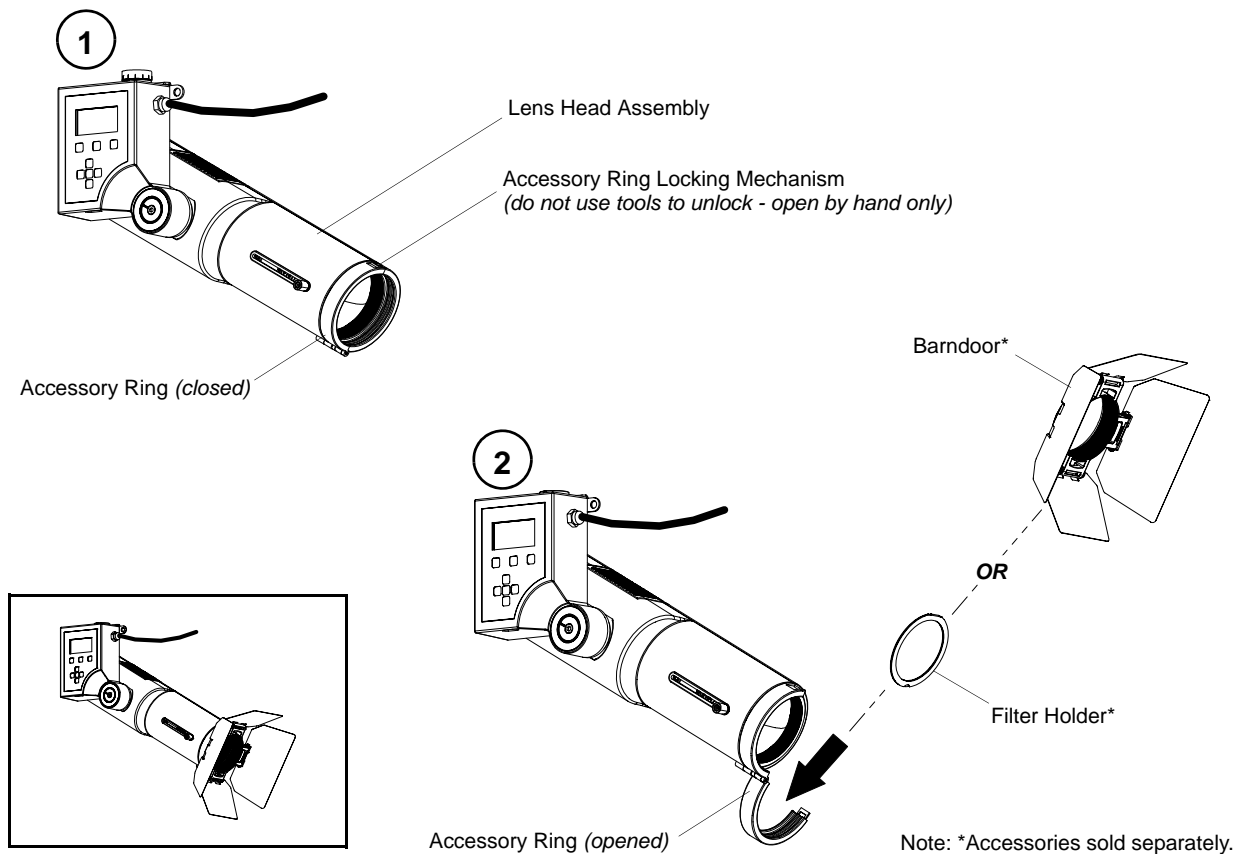

Figure 7: PL1 LED Accessory Installation
Step 2. At luminaire head assembly, as shown in **Figure 7**, open Accessory Ring holder by gently prying locking mechanism with finger.